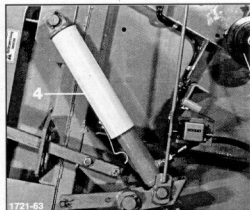

Figure 1
- Before entering the bale chamber, engage the tailgate support in the safety position (*Figure 1*).
Use the cylinder support 4 on the right machine side for this purpose (Figure 1). To insert the support, completely raise the tailgate and open the right-side guard. Push the yellow support upwards until it fits between the upper piston rod linkage point and the upper edge of the cylinder housing.
Do not go under the raised tailgate before the cylinder support is positioned (also see Page 3, Figure 1).